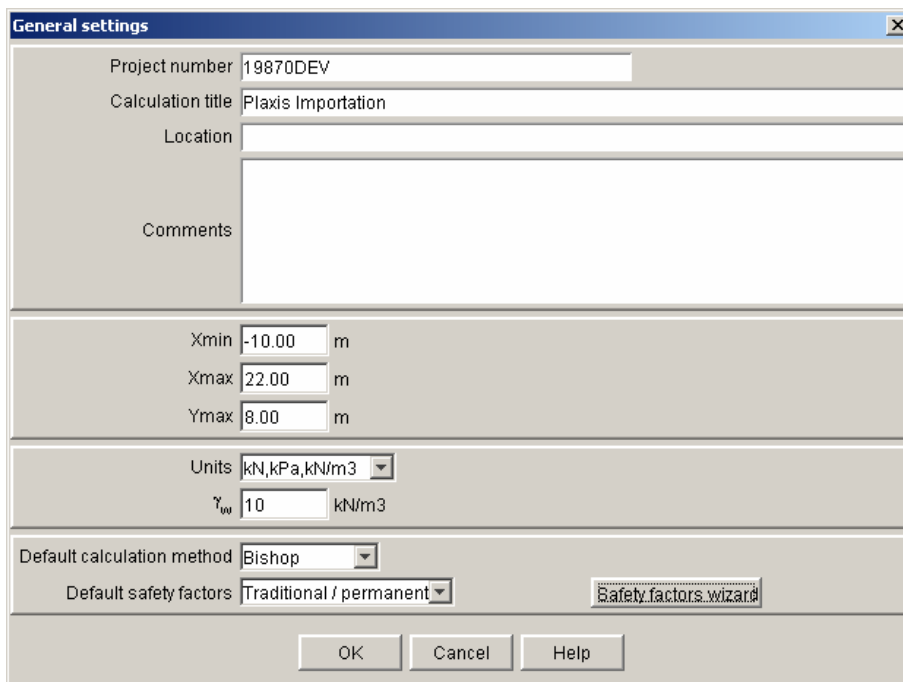

Figure 62: general settings
- Nevertheless, it is necessary to complete the project general settings (except for the model dimensions, automatically calculated with the model geometry). Click on the toolbar button  and complete the missing data (Figure 62).